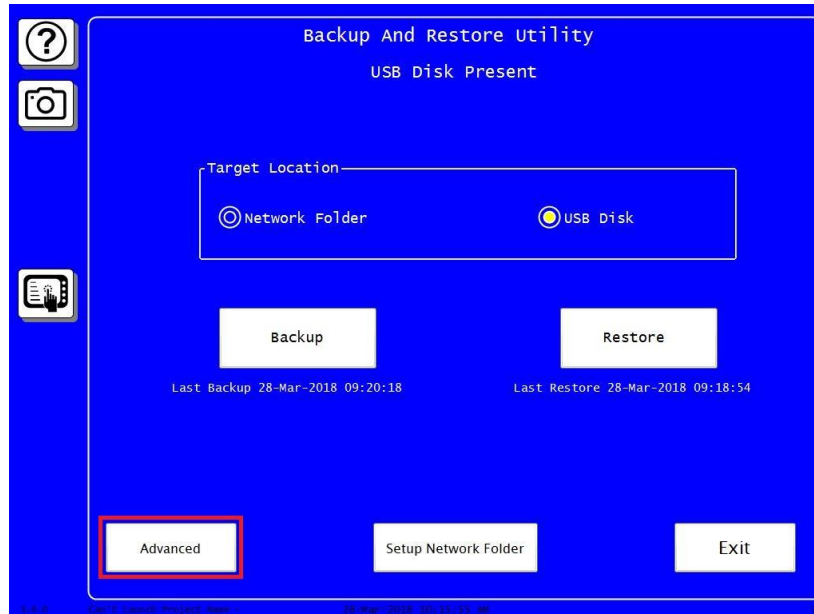

Figure 5 – Backup and Restore Utility Menu Advanced button
6. Press the Advanced button (Figure 5 below)